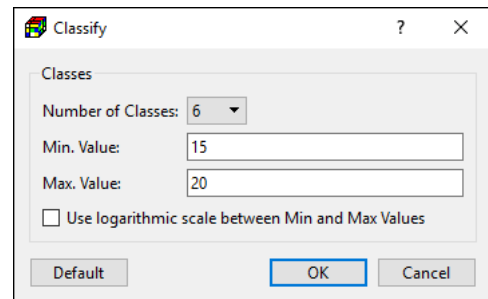

Figure 161. The Classify dialog box
- **Classify:** Click this button open the Classify dialog box (Figure 161) that is used to define the range of values and number of classes. If *Min. Value* and *Max. Value* are both positive, the option of *Use logarithmic scale between Min and Max Values* is available. Click the Default button to reset *Min. Value* and *Max. Value* to the values found in the data of the current layer.